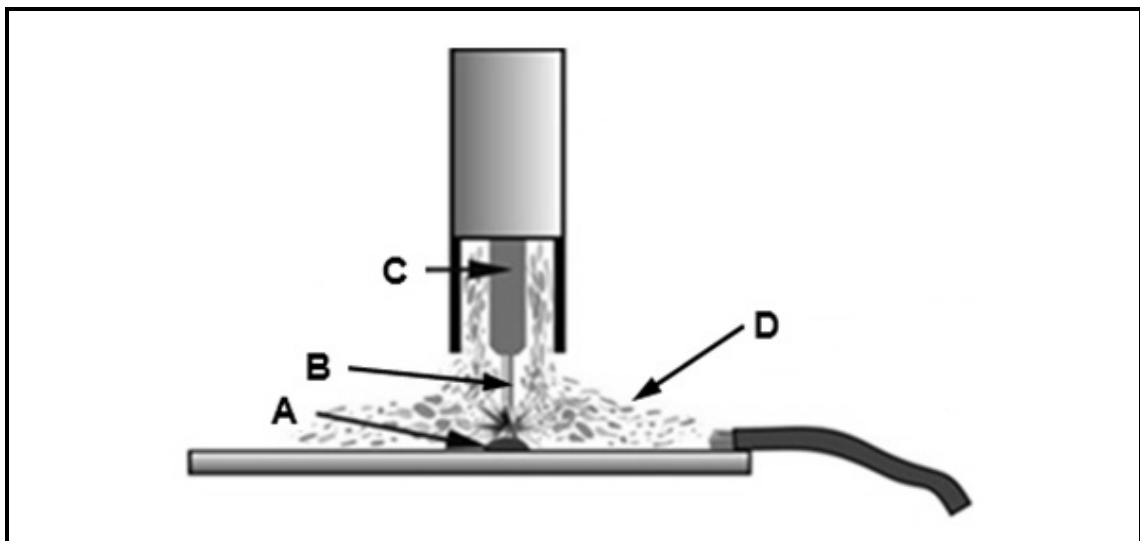

FIGURE 6.4
- 6.4 FIGURE 6.4 below shows the MIG/MAGS welding process. Label **A–D**.